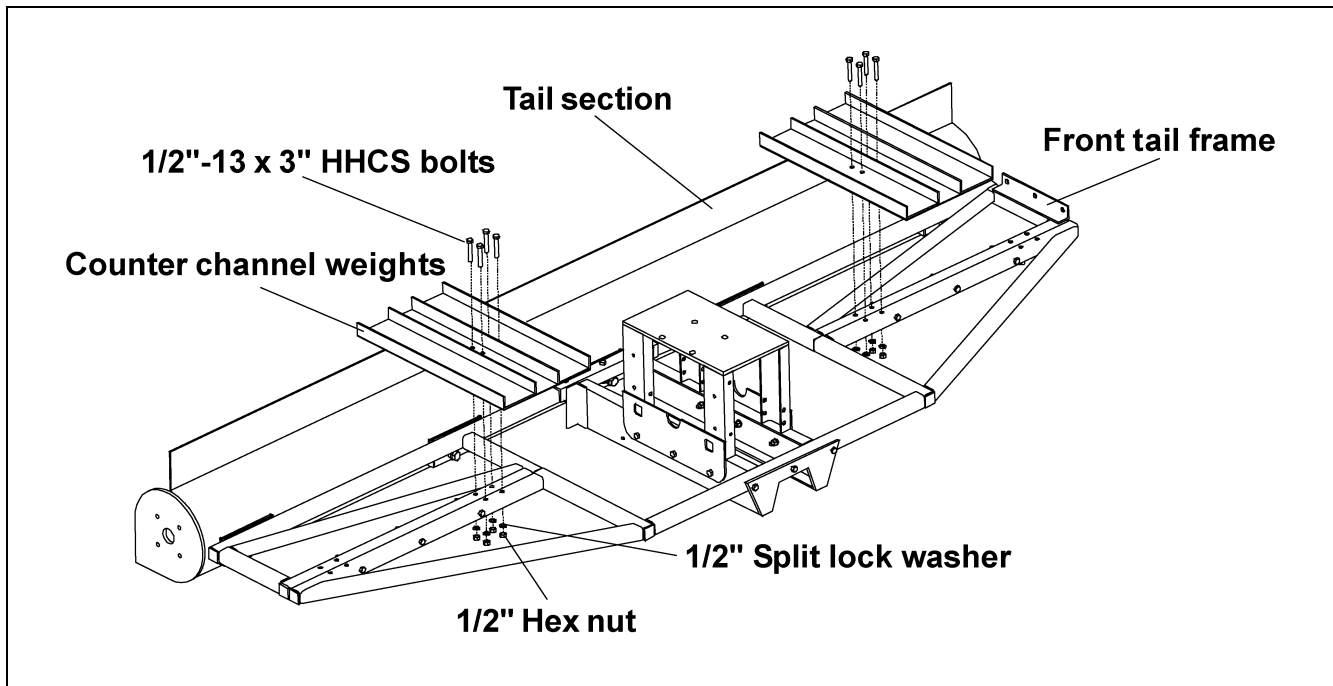

Figure 5G
7. Fasten counter weight channels to tail frame using eight (8) 1/2"-13 x 3" HHCS bolt, split lock washers and hex nuts. (See Figure 5G.)